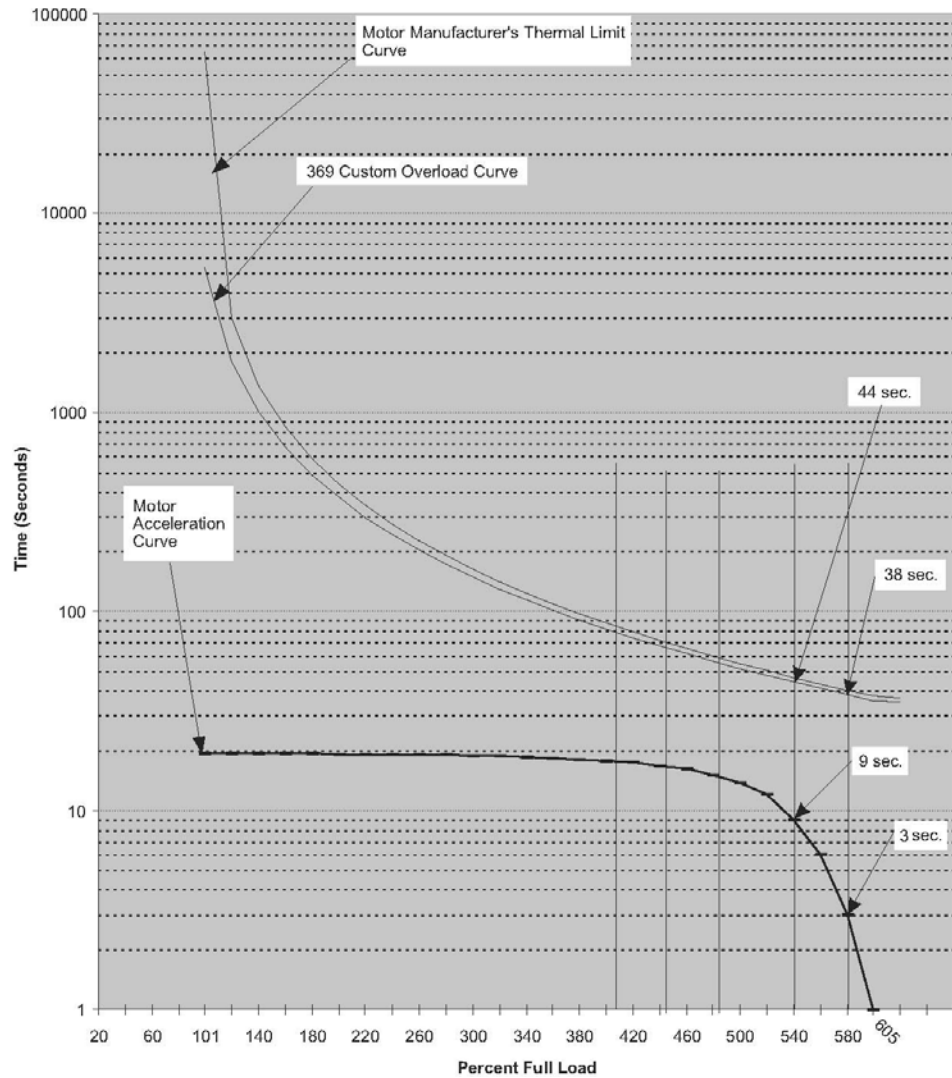

FIGURE 7-6: Thermal Limit Curves
4. Draw lines intersecting the acceleration curve and the overload curve. This is illustrated in FIGURE 7-6: *Thermal Limit Curves* on page 7-246.